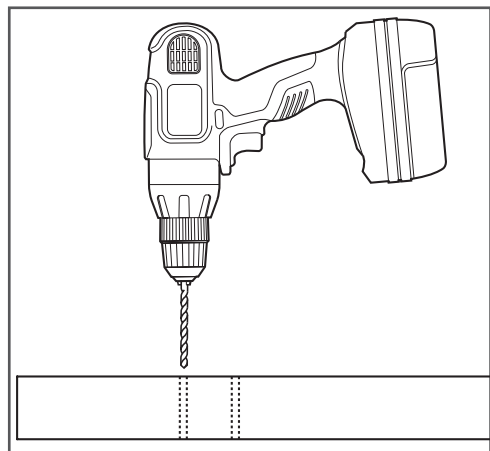

Figure 3
6. Drill four pilot holes all the way through the door for each hanger using a drill with an 1/8" drill bit (Figure 3). Change bit to 3/8" bit and drill through the four pilot holes.
4. Install the I-beam brackets (F.) on the I-Beam (J.) using bolts (D.) and nuts (E.) provided (Figure 3).